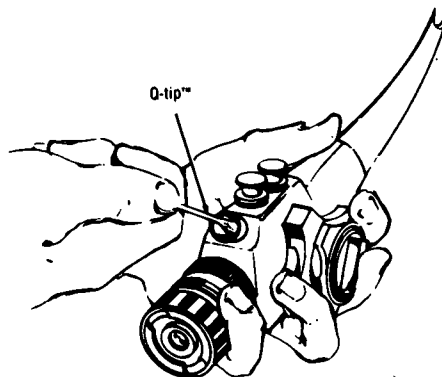

Figure 2-6. CLEAN BIOPSY PORT.
b. biopsy channel port on operating head after removal of biopsy valve. (On bronchoscopes, it is necessary to remove the suction valve adapter before the biopsy port can be cleaned. The suction valve adapter should be cleaned separately.) See Figure 2-6.